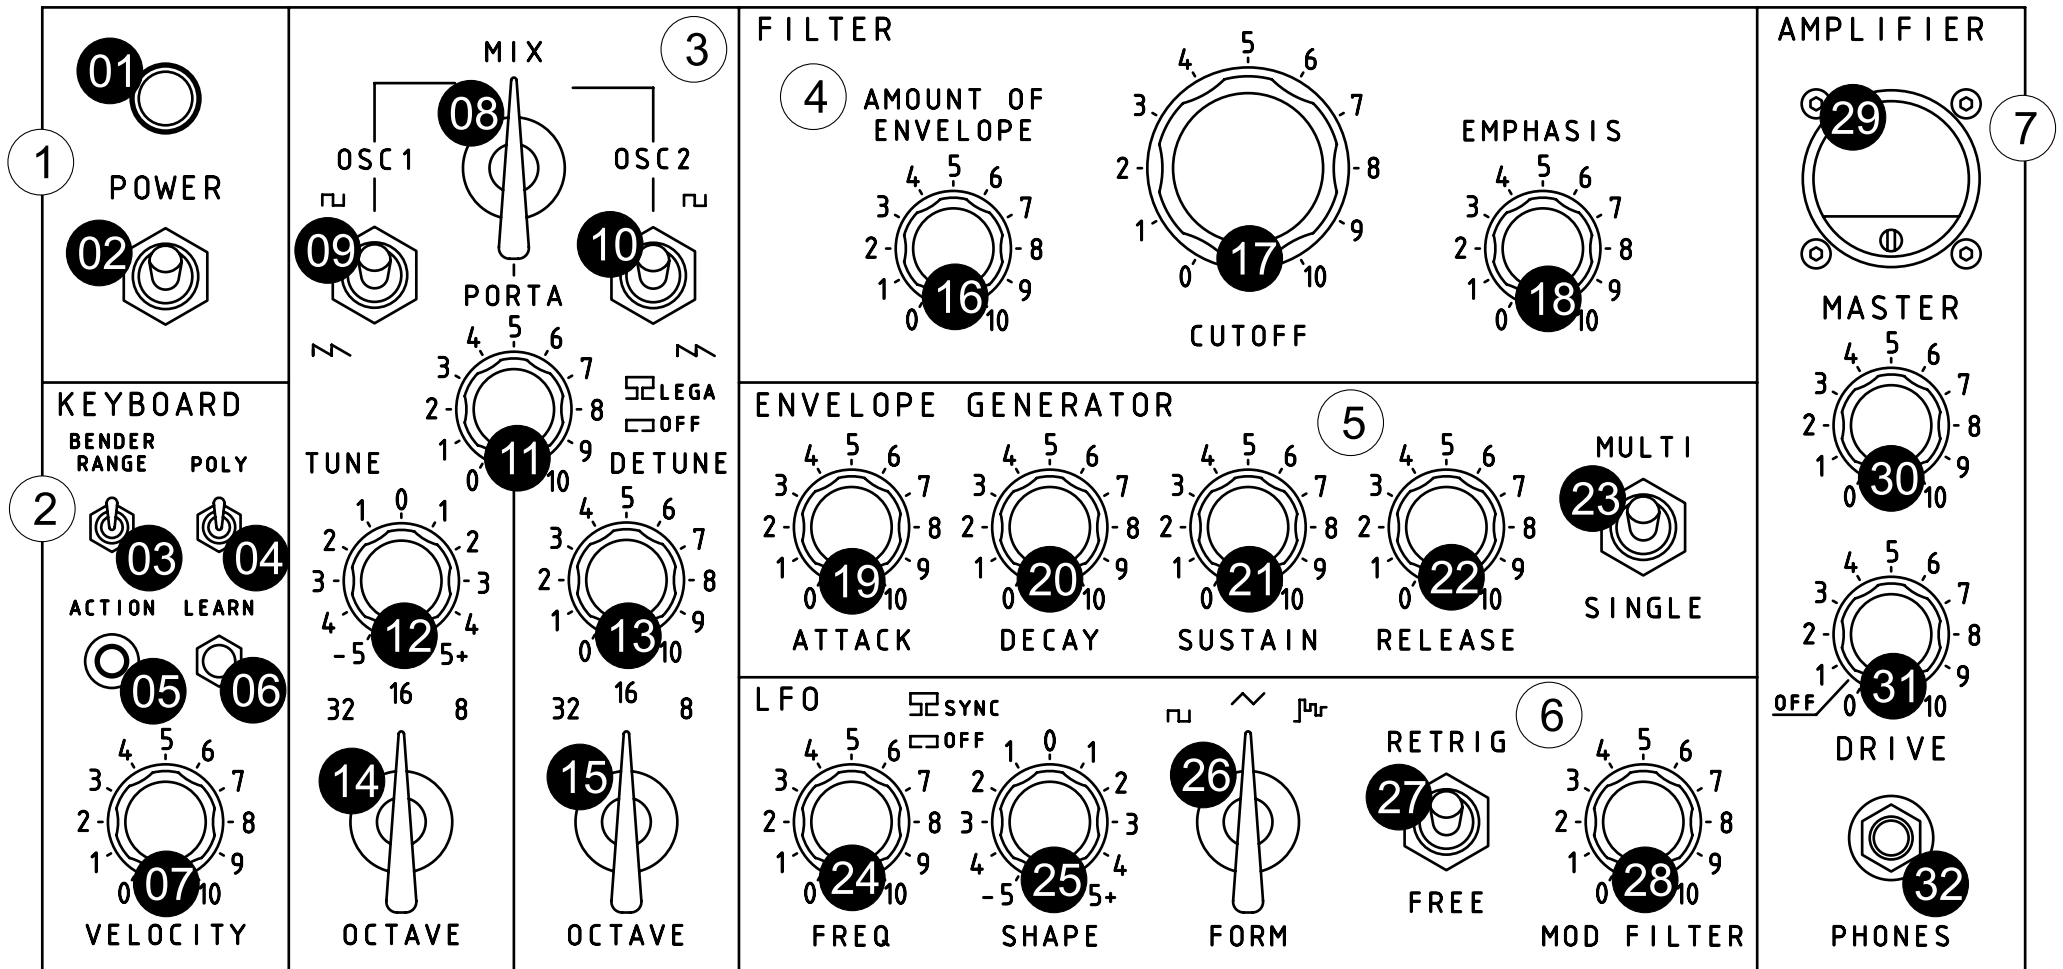

Fig. 2. Location of controls.
- Turn on (Fig. 2. 01). and warm up the synthesizer for at least 5 minutes.